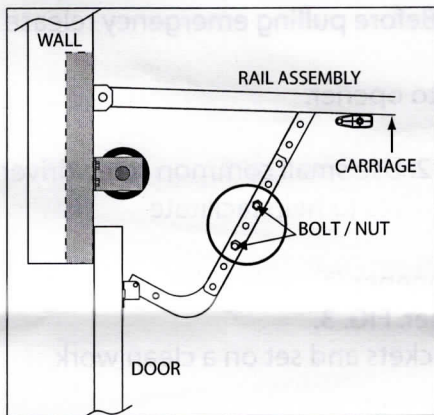

FIG. 3
7. Remove the 2 nuts & bolts from door arms to separate door from opener. FIG. 3.